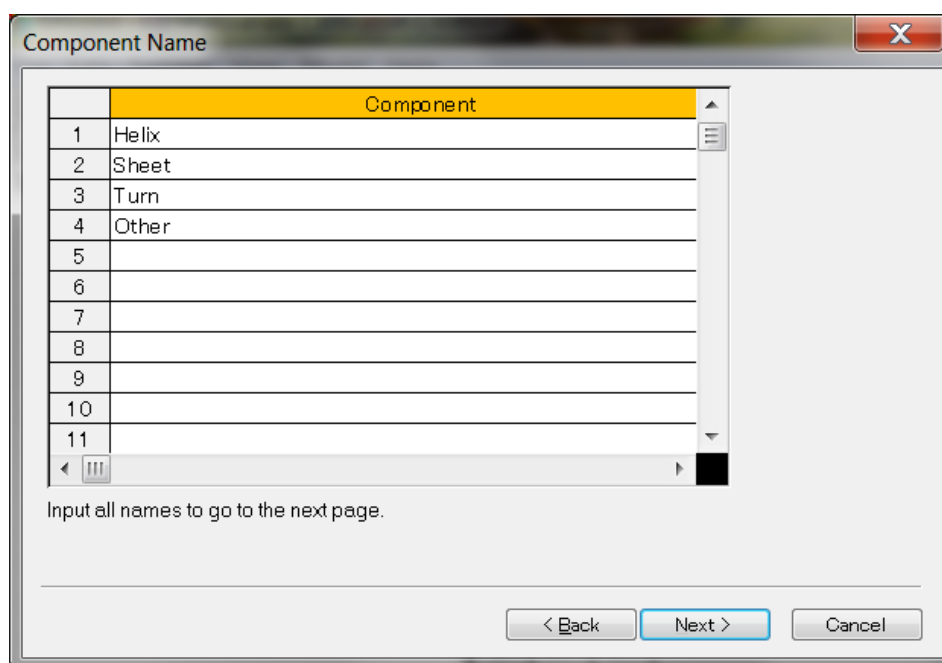

Figure 3.3 [Component Name] dialog box
<N e xt>	Displays the dialog box in Fig. 3.3.
- <Back> Returns to the dialog box in Fig. 3.3.